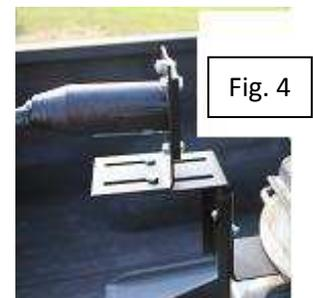

Fig. 4
- 8) Adjust hitch guide bracket the maximum distance away from hitch as possible, as shown in fig 4. Hand tighten.
- 6) With the placement of the trailer hitch assembly on the pin box as shown in fig. 4 and 5, mark the four mounting hole locations on the pin box.